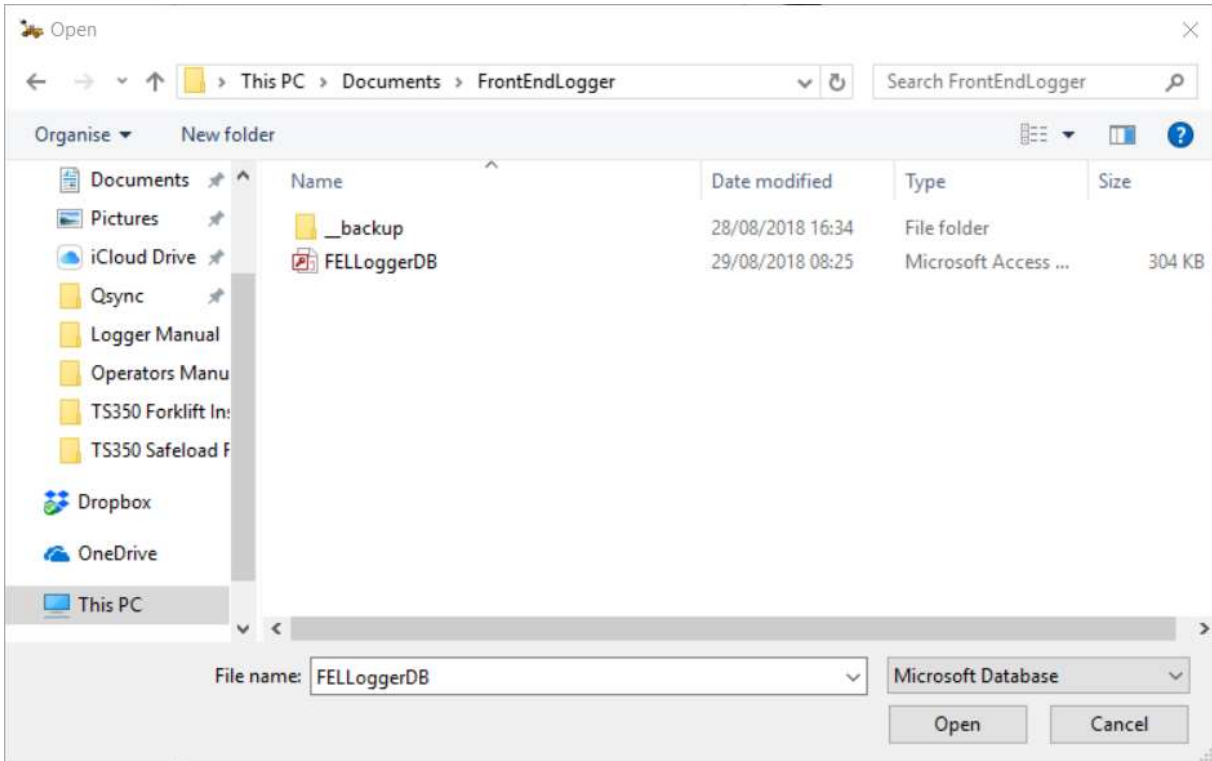

Figure 20
- Select the location of the new data base (**Figure 20**)